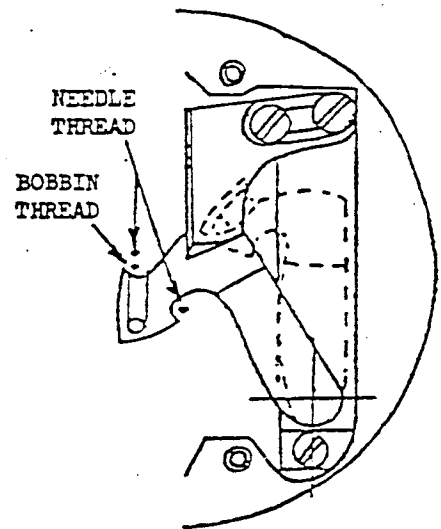
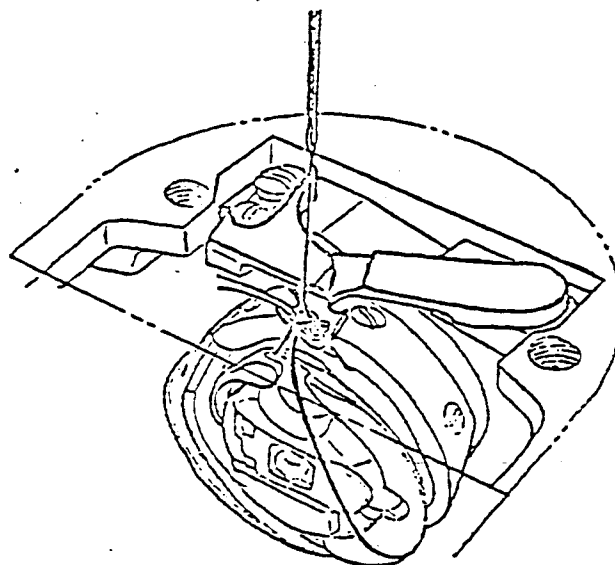

Fig. 8
Fig. 7
4. When the cam follower on the thread puller action plate slips into the recessed portion of the thread puller action cam adjusting plate, the thread puller is activated to move through the loop (Fig. 7) to a point shown in solid line in Fig. 8, and the needle and bobbin threads are positioned as shown also in Fig. 8. Simultaneously, the thread puller action plate pushes the tension release action plate making its pin ride on the tension release action cam. Immediately when the pin rides on the tension release action cam, the electronic command relayed from the trimmer-solenoid control sensor cuts off the current supply to the trimmer solenoid. The above motion makes the tension releasing cam rotate until just before the tension discs are released.